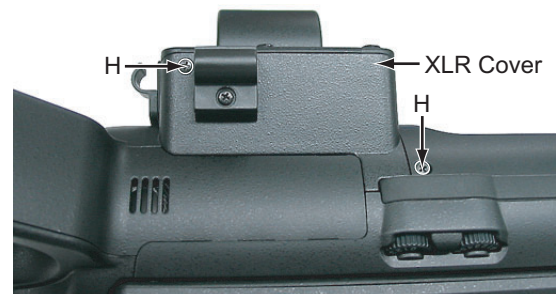

Fig.10
3.4.4 Removing the XLR board (See Figure 10, 11, 12 and 13)